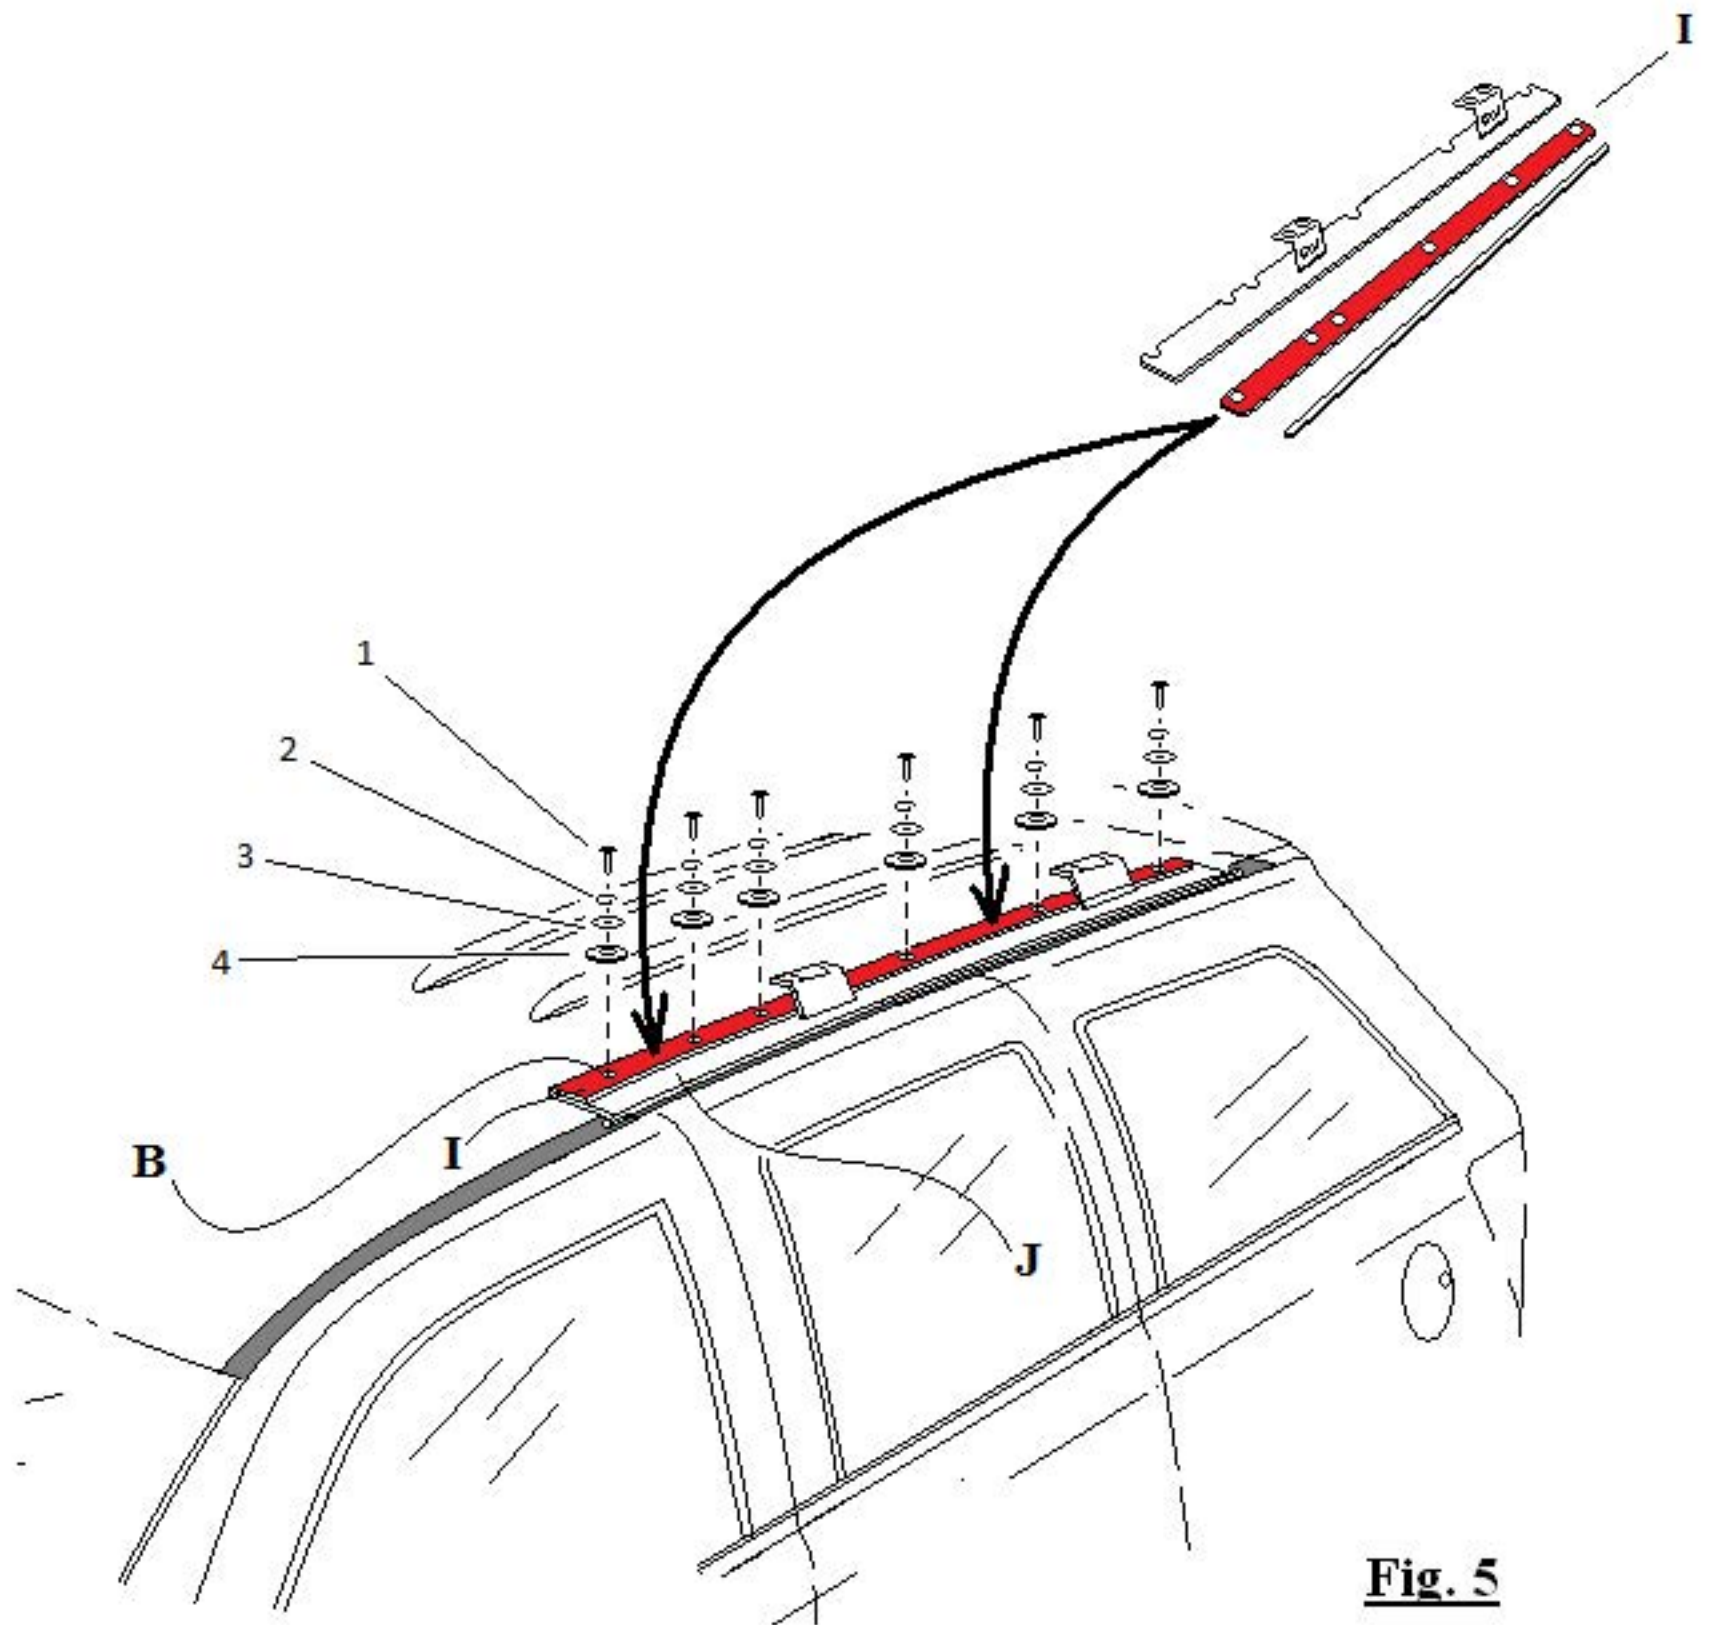

Fig. 5
- 6- Refer to page 8 Fig. 5 and remove from your hardware kit or strapped onto the Gobi roof rack, support rail (I) marked or stamped with a (D) for driver side. Place rail (I) with mounting holes closest to the edge facing towards the center of the vehicle and match up rail (I) mounting holes with studs (B) as shown. When installed correctly rail (I) should sit onto support rail (J) with all studs (B) visible through all mounting holes of rail (I) as shown in Fig. 5. Using the screw hardware in (Bag 3) located on page 2 of your hardware list take out 6- M6x 20mm Stainless Steel button head screws indicated by (1) on Fig. 5, 6- 1/4" Stainless Steel lock washers (2), 6- 1" Stainless Steel water tight washers (3) and 6- 1-1/2" Stainless Steel fender washers (4) along with 1- 4mm Allen wrench. Thread in each set of screws as shown in Fig. 5 and fully tighten. Apply the same procedure to the passenger side.